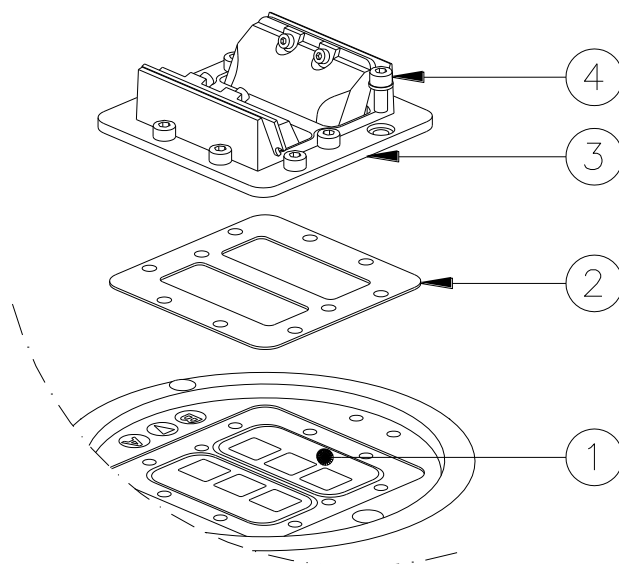

Figure 24 – Prism Surface to be Cleaned
- remove the mounting plate (Figure 24 - n°3) unscrewing the relevant screws HSCS M5x12 (Figure 24 - n°4)
- remove the prism holder gasket (Figure 24 - n°2)
- clean the prism surface (Figure 24 - n°1) with non abrasive glass product